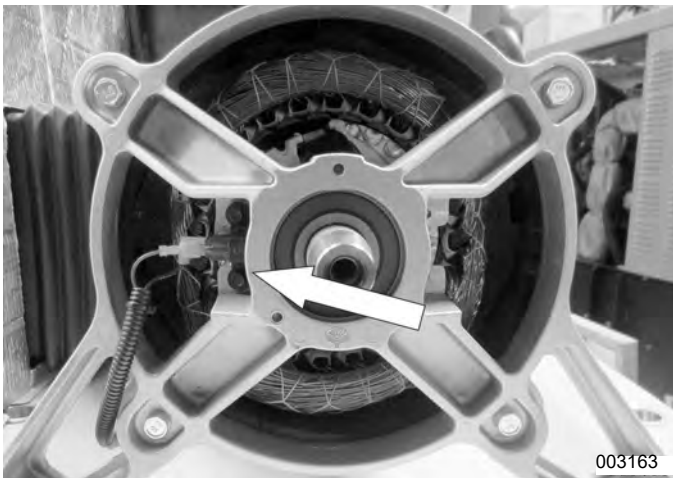

Figure 5-51. Brushes Location
19. **Remove Brushes:** See Figure 5-51. Use a 7 mm socket to remove brushes.